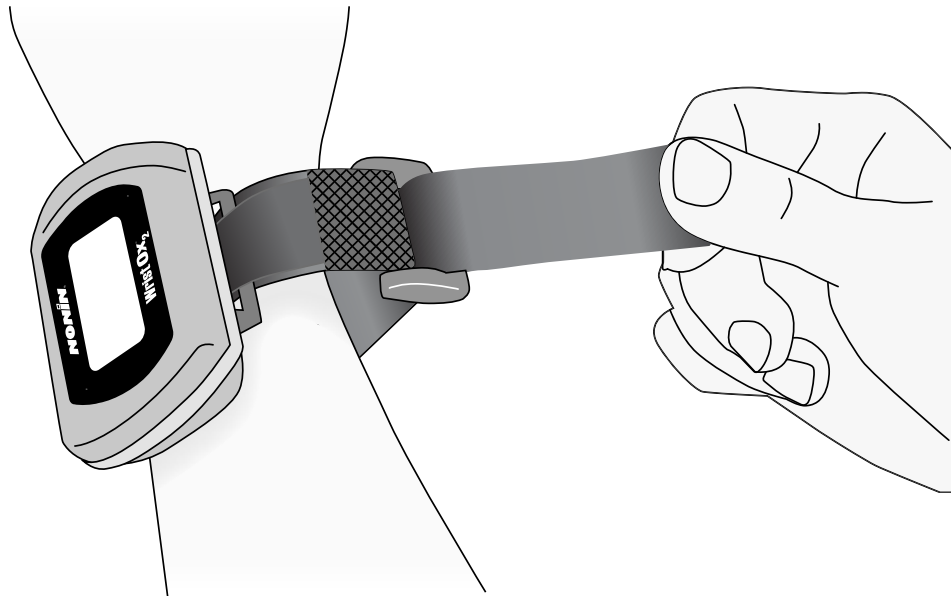

Figure 11: Thread and Tighten Wristband
3. Thread the rounded end of the wristband through the plastic ring. Pull the strap through the plastic ring until the device fits comfortably on the wrist (figure 11).